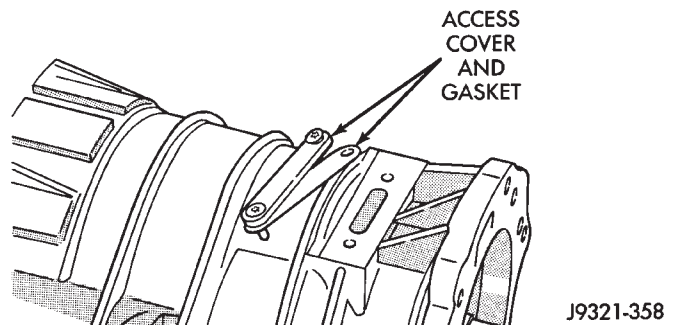

Fig. 203 Access Cover And Gasket Removal/Installation
- (4) Remove access cover and gasket (Fig. 203).